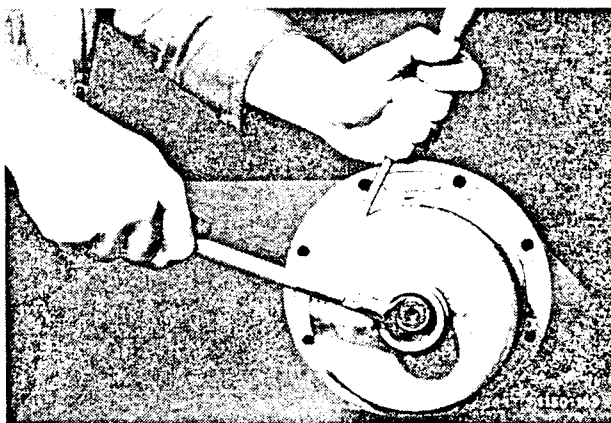

Fig. 11 Undoing the impeller nut
2. Undo the impeller nut (217) – see fig. 11 – and remove the spring washer (222).